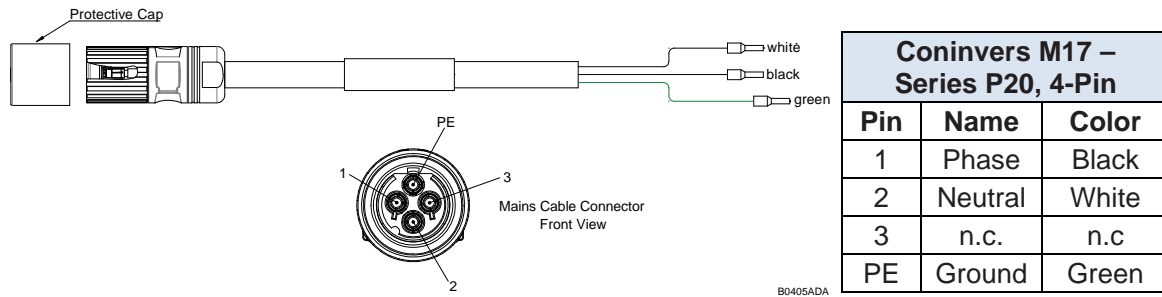

figure 4-10 Mains power cable - AC
4. Wire the power cable to the junction box or receptacle. Refer to the color code and pin numbers shown in *figure 4-10* (AC cable), and *table 4-3*.